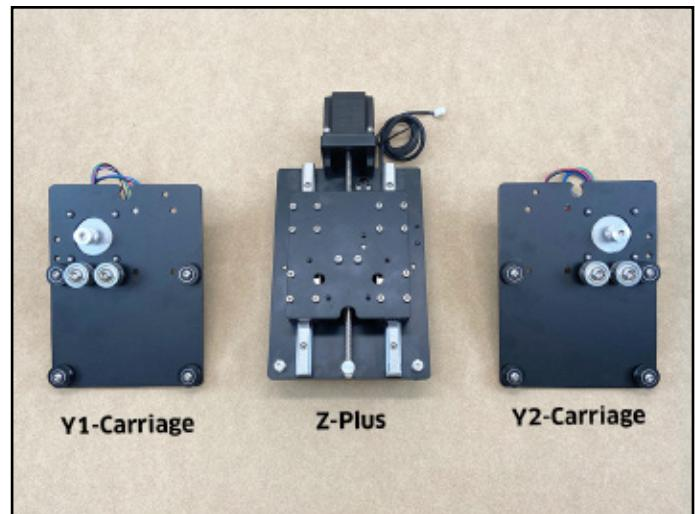

Figure 3-6
1. Gather the three (3) carriages. See *Figure 3-6*: